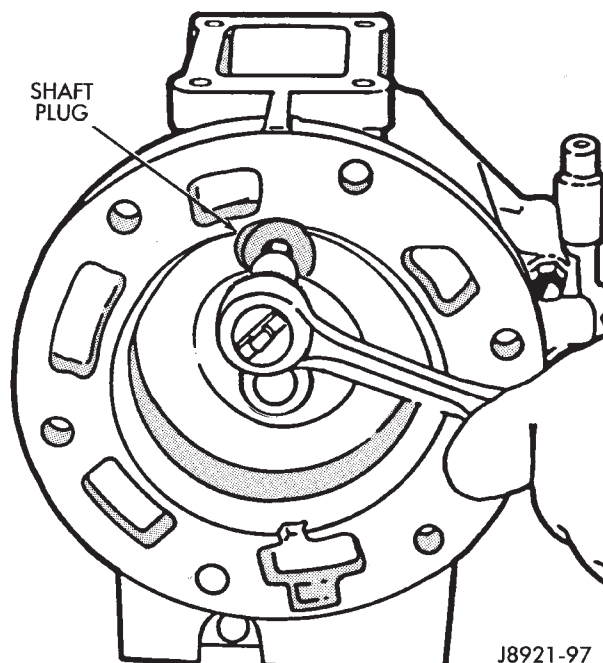

Fig. 42 Shifter Arm Shaft Plug Installation
(14) Install and tighten shifter arm shaft plug to 18 N·m (13 ft. lbs.) torque (Fig. 42).